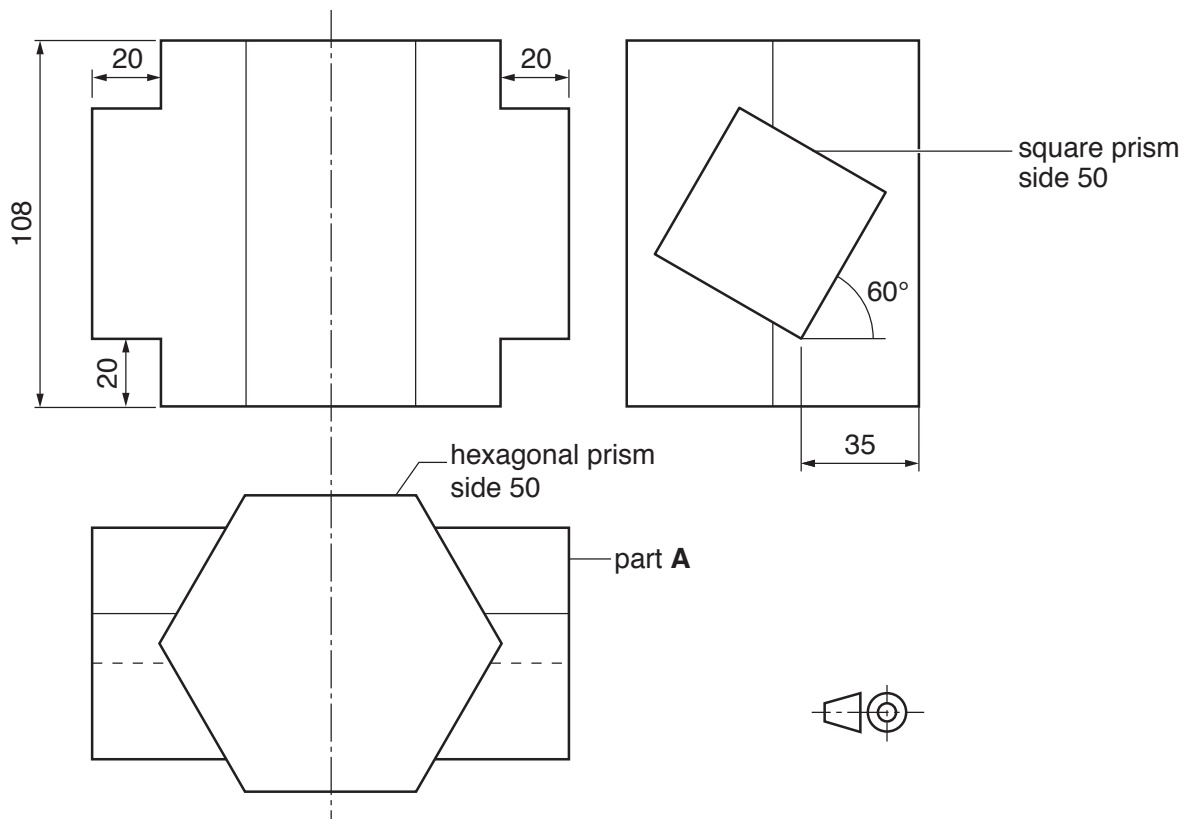

Fig. 7.1
- 7 Fig. 7.1 shows an incomplete drawing of the intersection of an hexagonal prism and a square prism.